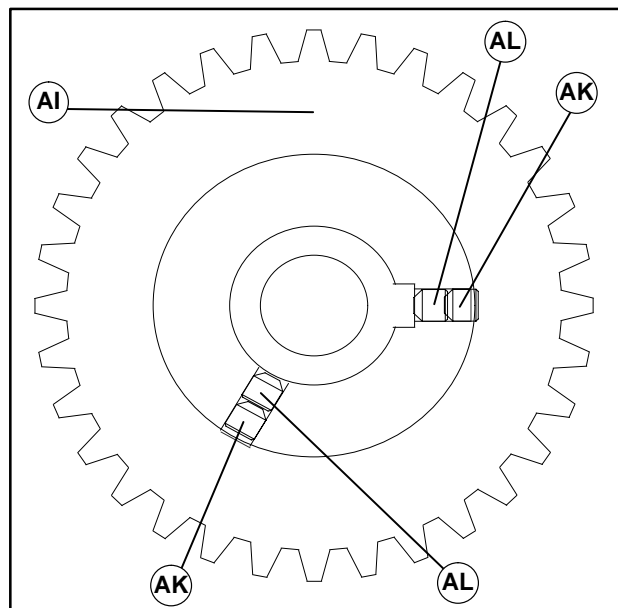

Figure 22
6. Remove upper set screws (AK of Figure 22) from spur gear (AI). Loosen lower set screws (AL). Remove spur gear (AI) from drive shaft.